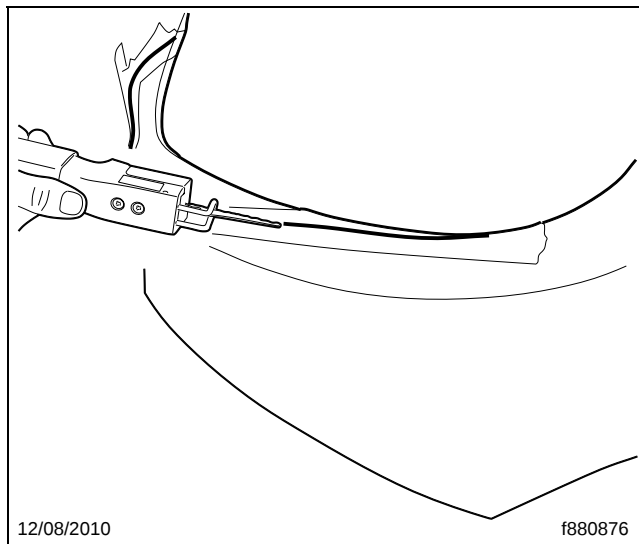
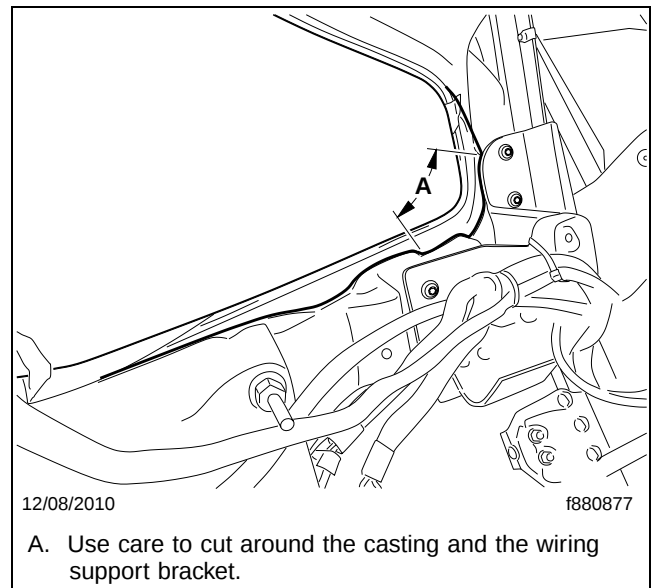

Fig. 7, Cutting Along the Guide Line
Fig. 8, Cutting Around the Casting
11. Using a metal saw, cut along the guide line. See **Fig. 7**. Use care to adjust the saw and cut around the casting and the wiring support bracket. Repeat on the other side of the vehicle. See **Fig. 8**.